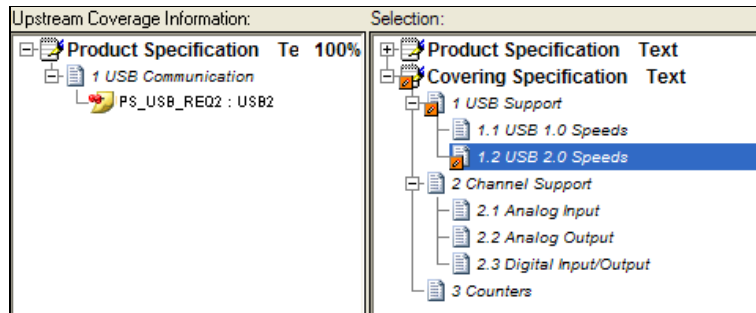

Figure 4-7. Covering Specification Document After Reload
13. Return to Requirements Gateway. When the main window of Requirements Gateway is displayed, the application prompts you indicating that the Covering Specification document was modified. Click **Yes** to reload the file. Requirements Gateway analyzes the new document and updates the view as shown in Figure 4-7.